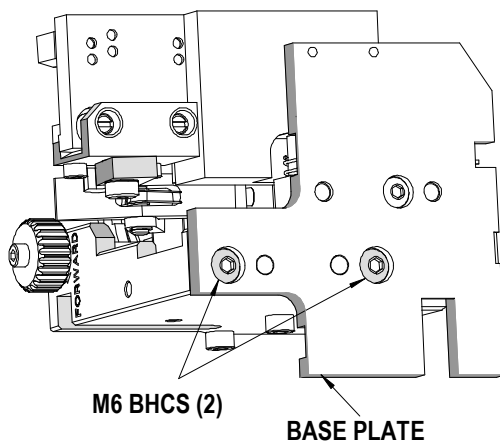

Figure 2-8
3. Lay the applicator on its side. Using a 4mm hex wrench, remove the (2) M6 BHCS that hold the applicator frame to the base plate. See Figure 2.8.